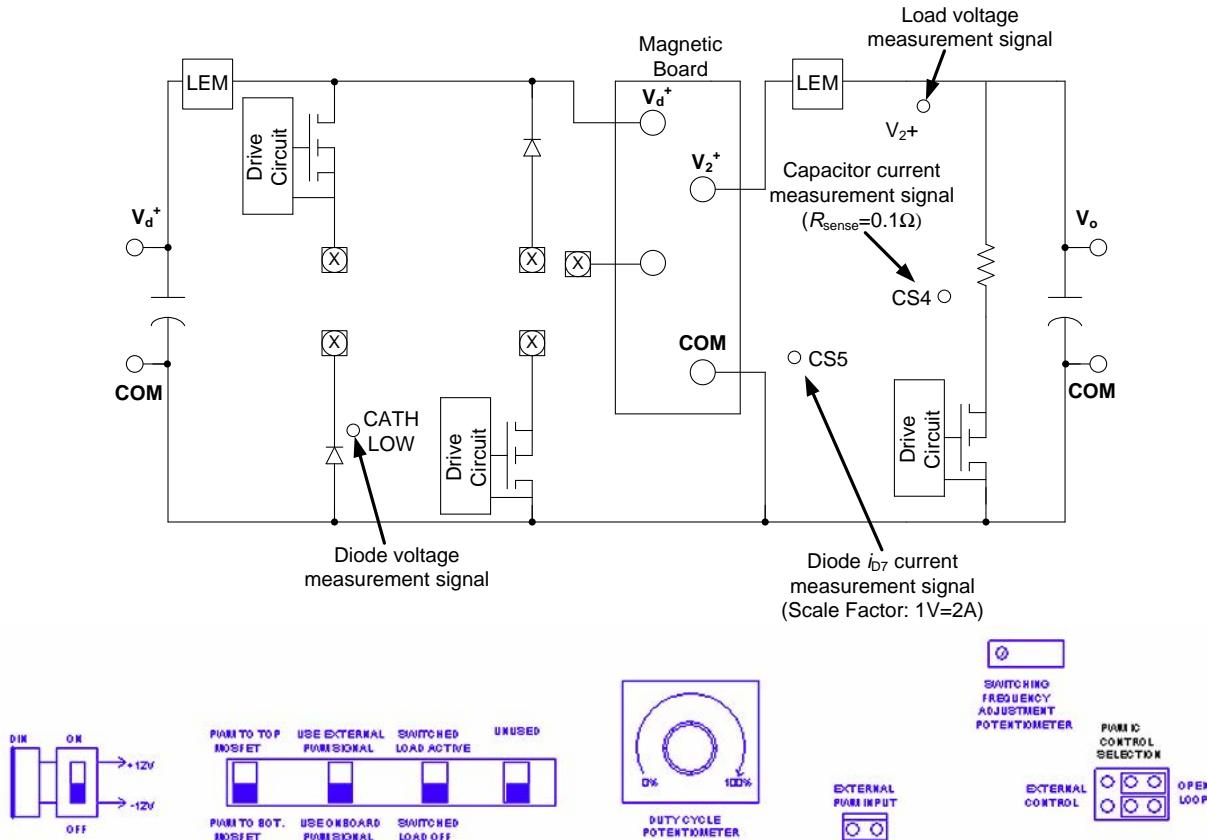

Figure 1. Sketch over the laboratory board with no magnetic board attached.
- (1) Determine the primary magnetizing inductance of the transformer. Use the data given for the core and the windings.
- (2) How can the magnetizing inductance value be determined if the current waveform i_{D7} and the output voltage is known?
- (3) What is winding N_2 in Figure 1 used for and how (Refer to lecture, tutorial 5 or PSpice 3 for detail)? What is the maximum possible voltage on the switch S in the absence of the second winding?
- (4) Complete the Flyback converter in Figure 1. Draw the necessary connections between the diode, transistor and the magnetic board. The magnetic board for the flyback lab consists of a three-winding transformer and a diode. Observe that not all diodes and MOSFET's on the lab board need to be used.
- (5) The Flyback converter can operate in either DCM or CCM. Draw the ideal waveforms of v_{sw} , i_{sw} , i_{D7} and $i_{D5,6}$ for $D = 0.3$, $R_{load} = 20\Omega$ for two switching frequencies on pages 4 and 5 ($f_{sw} = 20kHz$, $f_{sw} = 100kHz$). Hint: One switching frequency will result in DCM operation and the other one to CCM operation.
- (6) Assume that $R_L = \infty$, $D = 0.3$ and $f_{sw} = 20kHz$. Draw the ideal waveforms for v_{sw} , i_{sw} , i_{D7} and $i_{D5,6}$ on page 6.
- (7) Derive the expression for the input/output voltage ratio for both CCM and DCM. Use these expressions to complete the tables on page 9 and 11 for the specified values of the duty-cycles. Use $R_L = 20\Omega$, $f_{sw} = 20kHz$ and $f_{sw} = 100kHz$.